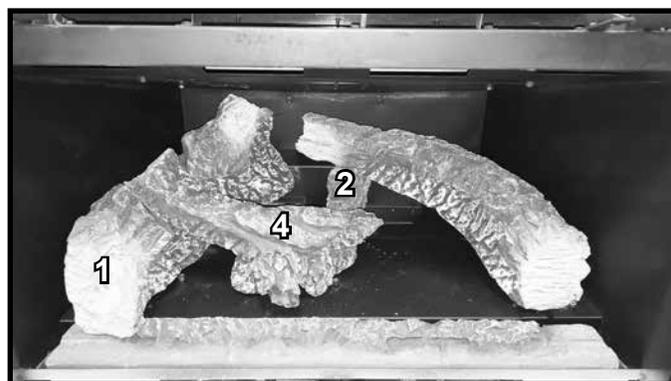

Figure 6 Log #4 Installed
**LOG #4:** The Y-end of Log #4 should sit on the flat spot of Log #2, the other end will sit on the flat spot of Log #1. See Figure 6